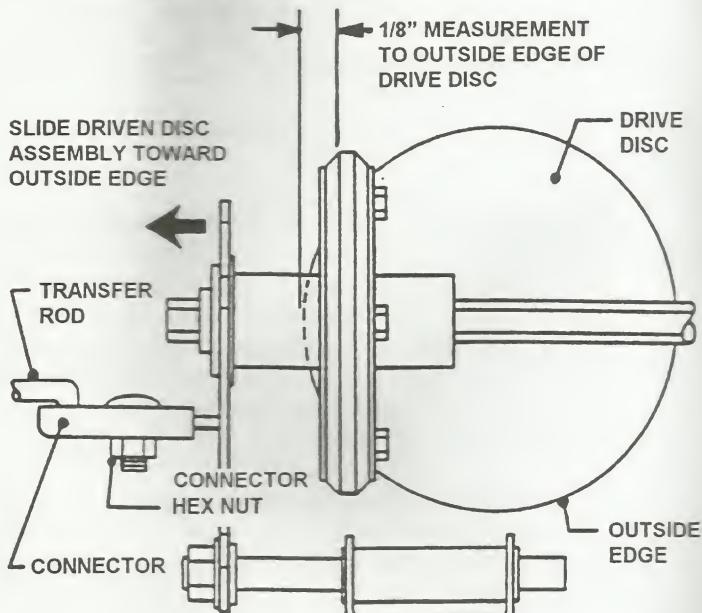

FIGURE 4.10
- Slide driven disc assembly over to 1/8" from outside edge of drive disc. Maintaining the 1/8" measurement, remove any looseness from the linkage. This can be done by holding the transfer rod and applying pressure to the left (as viewed from operators position). Then retighten the connector hex nut securely. See Figure 4.10. Move ground speed control to the first speed position, then back to the sixth speed position. Recheck the 1/8" measurement described previously. Reinstall driven disc spring to driven disc assembly.